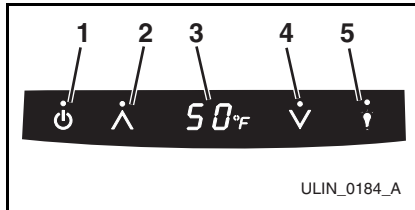

Figure 4
The electronic control with digital display (**Figure 4**) is configured to show a single temperature continuously. This set-point temperature is a base number used by the controller to maintain the temperature zones in your unit. The factory default set-point temperature is 60°F in the top drawer and 40°F in the bottom drawer. This set-point temperature is used as a gauge if further temperature adjustments are required.
A DISPLAY OFF mode is available through the control panel. This mode allows you to control whether the display (**Figure 4, 3**) will be ON or OFF whenever the door is closed. The icon touch sequence that follows will switch between both modes:
1. Touch and hold the WARMER icon (**Figure 4, 2**), and within five seconds press the POWER icon (**Figure 4, 1**) three times.
U-Line products supplied for 110 VAC operation have temperatures displayed in a default Fahrenheit (°F) configuration (**Figure 4, 3**).
The display can easily be adjusted for either type of temperature display. Press and hold the LIGHT icon (**Figure 4, 5**) and within five seconds press the COOLER icon (**Figure 4, 4**) three times to change the display as desired.
1. Press and hold the WARMER icon (**Figure 4, 2**) for approximately five seconds and release when the °F symbol in the display (**Figure 4, 3**) begins to flash.
2. The display (**Figure 4, 3**) will show an individual reading on each drawer.